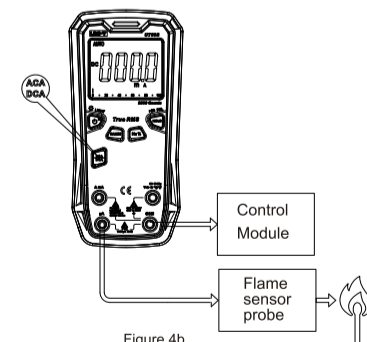

Figure 4b
- " $\mu\text{A}$ " terminal can be used to heating system flame rectifier circuit detection (Figure 4b)